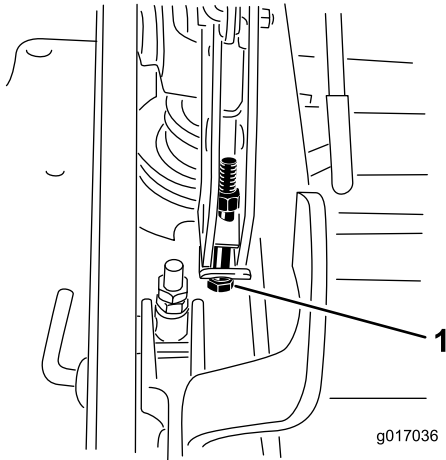

Figure 89
- 13. If the deck is too low, tighten the single point adjustment bolt by rotating it clockwise. If the deck is too high, loosen the single point adjustment bolt by rotating it counterclockwise (Figure 89).